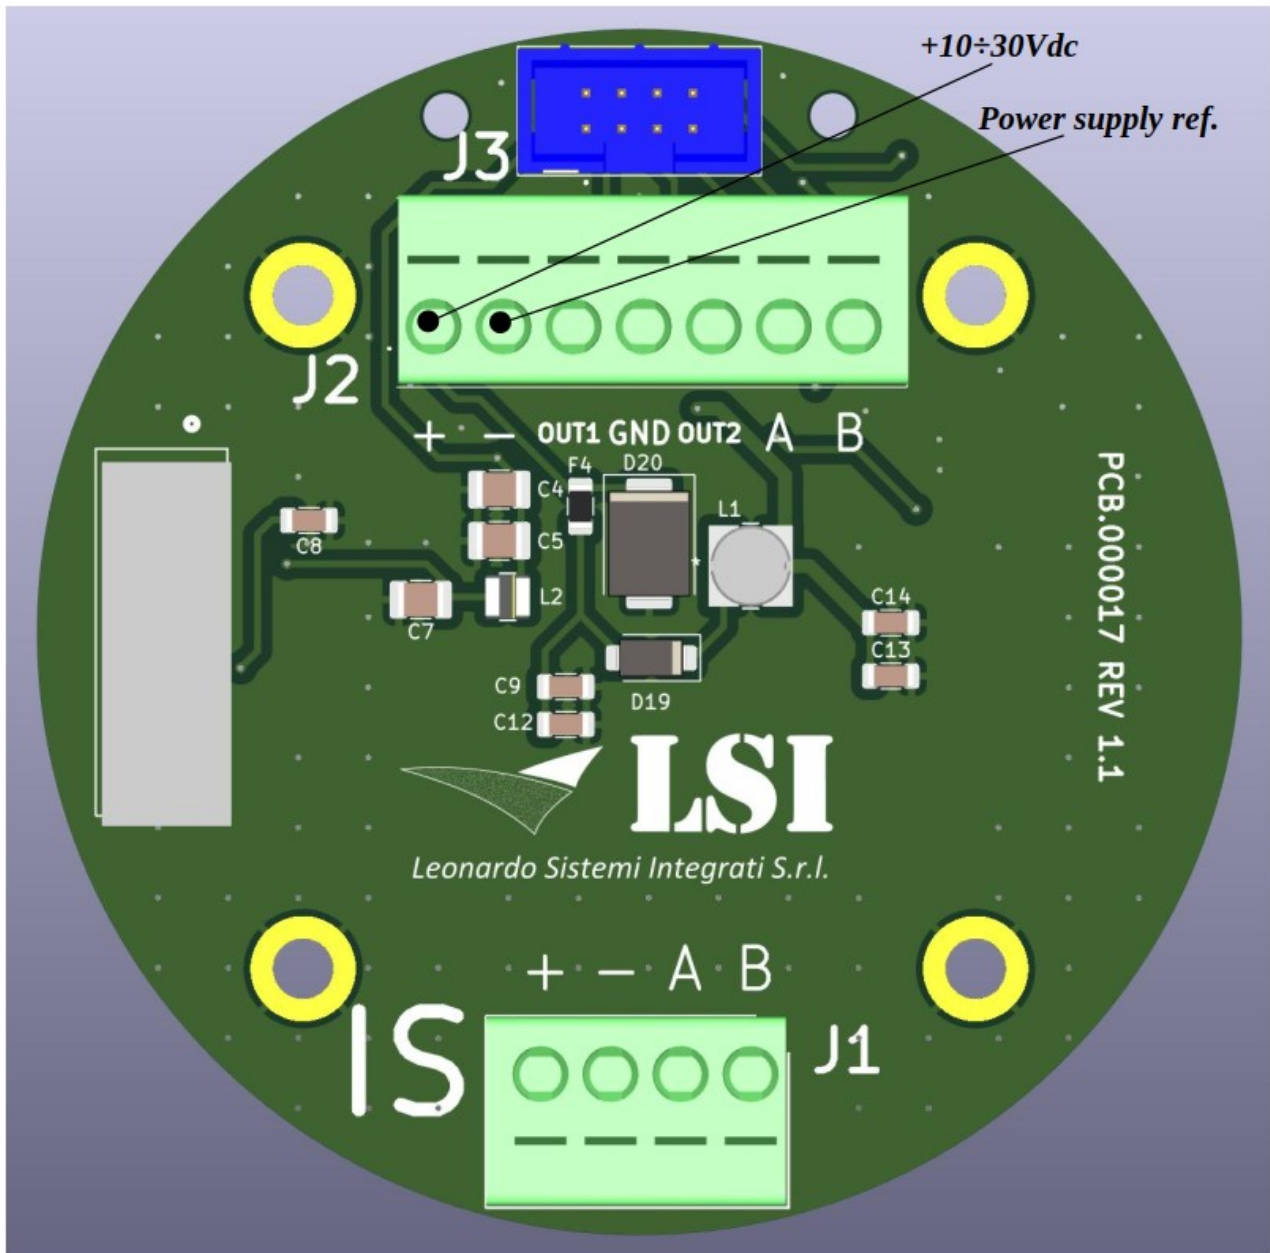

Figure 4 - Power supply connection (J2)
- Connect the power cable wires to the relative spring terminals block, according to the information on the PCB silk-screen (see Figure 4).